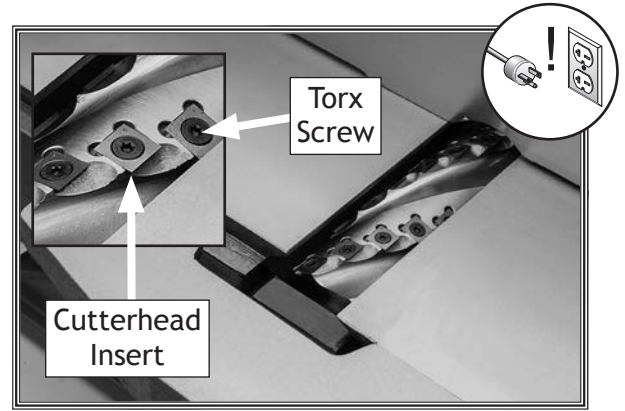

Figure 48. Example of cutterhead inserts and Torx screws.
6. Carefully clean away all sawdust or debris from top of insert, Torx screw, and surrounding area (see Figure 48).